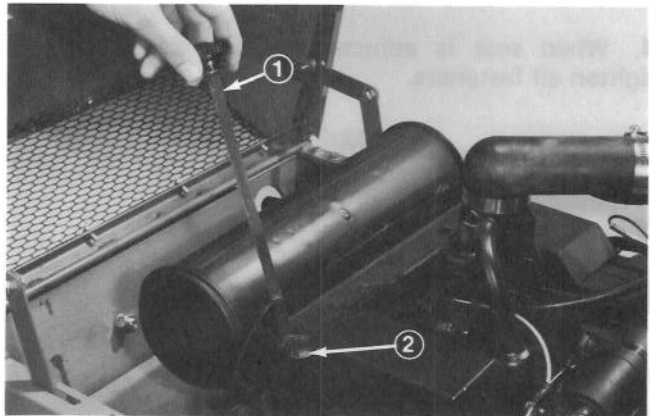

Figure 8
3. Unscrew dipstick and wipe it with a clean rag. Screw dipstick into the filler neck and make sure it is seated fully. Unscrew dipstick out of filler neck and check level of oil (Fig. 8). If oil level is